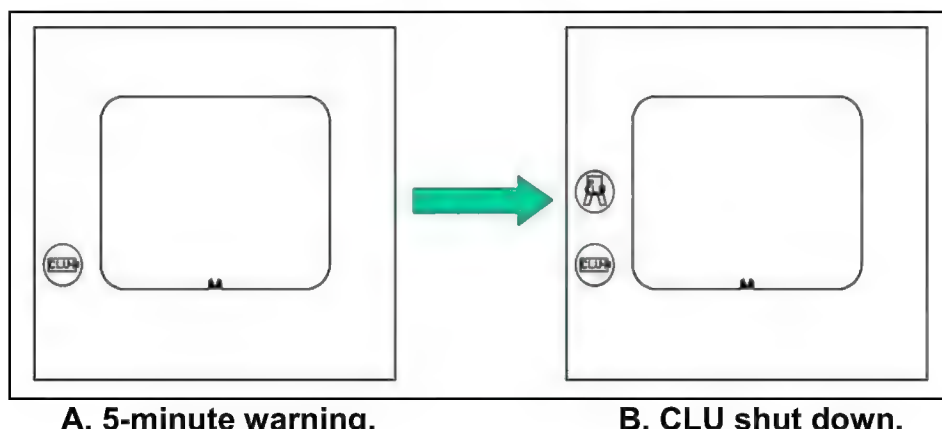

Figure D-3. CLU BATTERY indicator—ON.
- a. **Indicator.** This light is red and is a warning indicator (Figure D-3).